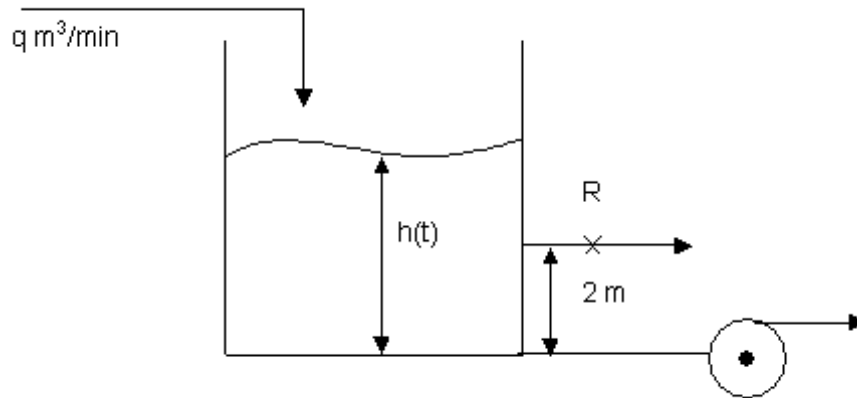

Figure 1
- Derive the transfer function  $H(s)/Q(s)$  for the liquid level system shown in figure 1, when the tank level operates about the steady state value of  $h_s=1\text{m}$ . The pump removes water at a constant rate of  $10\text{m}^3$ . This rate is independent of head. The cross sectional area of the tank is  $1\text{m}^2$  and the resistance  $R$  is  $0.5\text{m}/\text{m}^3/\text{min}$ . [16]